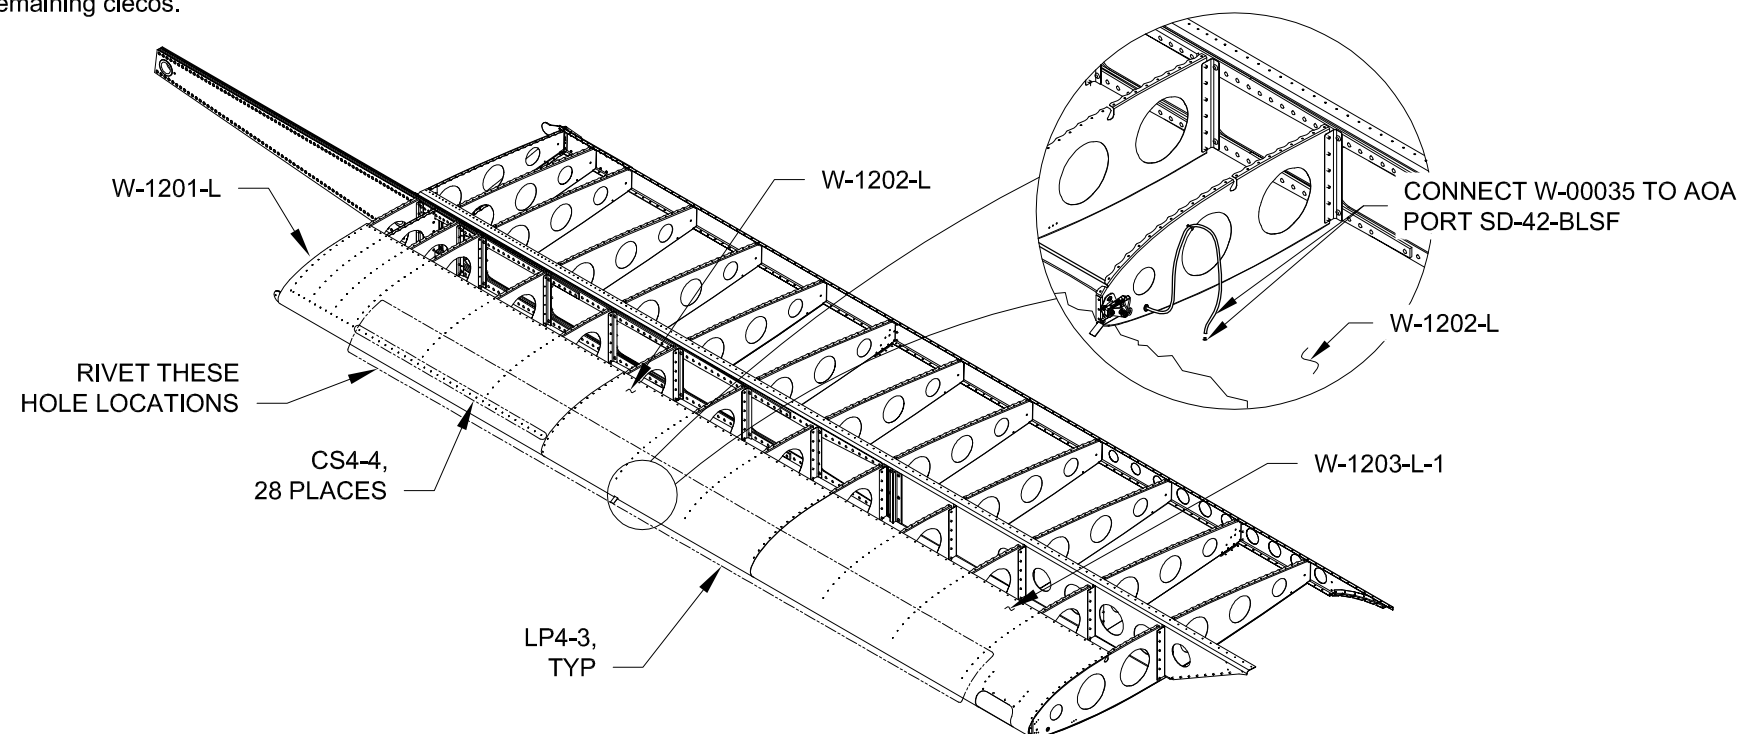

FIGURE 1: RIVETING THE LEADING EDGE
Step 2: Cleco the W-1201-L, W-1202-L, & W-1203-L-1 Inbd, Mid, & Outbd Wing Skins to the skeleton using the open holes on the bottom and the top of the wing. Rivet the inbd, mid, & outbd wing skins to the skeleton as called-out in Figure 1. Remove any remaining clecos.
Step 3: Connect the W-00035 line to the AOA Port SD-42-BLSF as shown in the Detail View of Figure 1. Once connected, seal the W-00035 to the AOA Port and W-1202-L INBD Wing Skin with a bead of RTV, ensuring not to get any RTV inside the line or port.